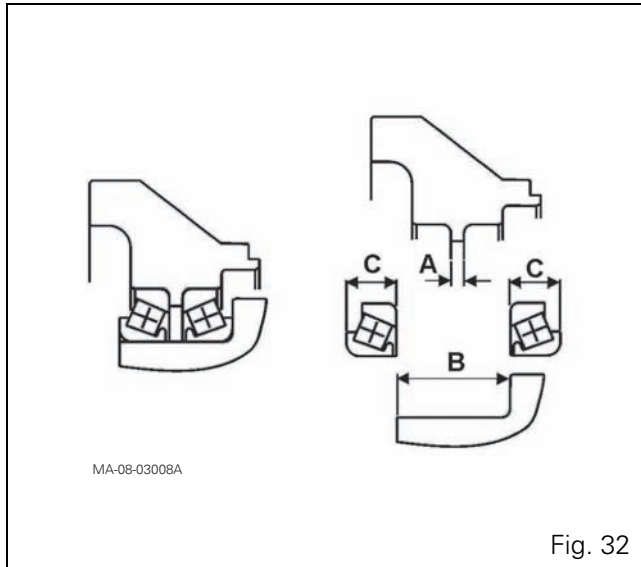

Fig. 32
**36.** The special "Set Right" operation, which consists of shimming the bearings, does not require any specific preload or setting. The required values should always be checked before installing new parts (Fig. 32).